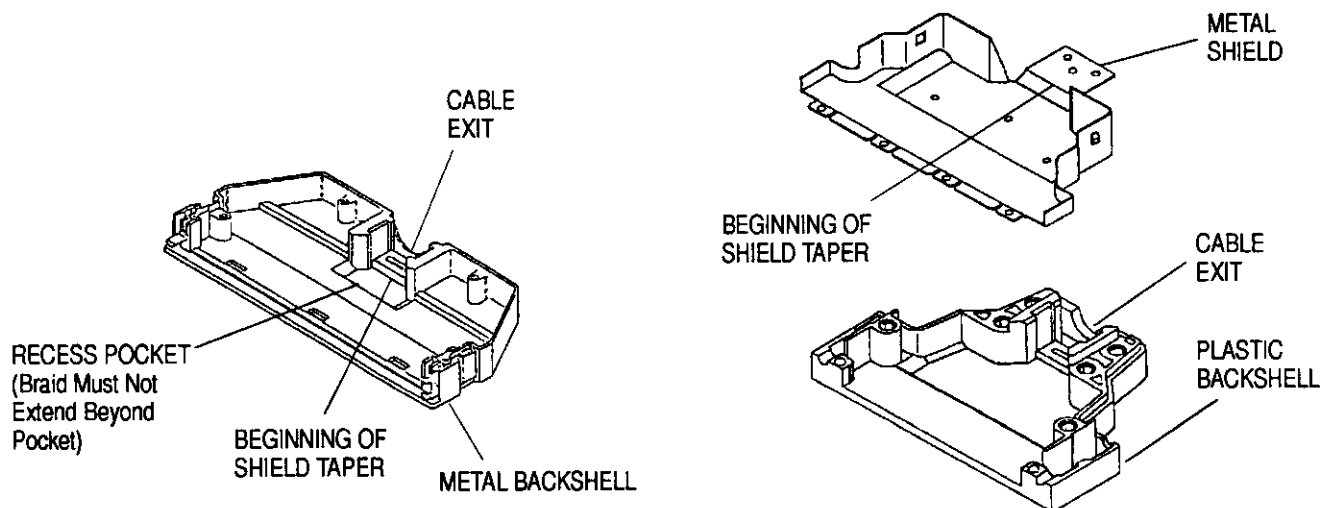

Figure 5
The braid length will vary depending on the backshell style, cable bundle size, and slack needed to assure strain relief for all wires. Essential requirements are that the leading edge of the braid fold extends slightly beyond the beginning of the shield taper and the trailing ends of the braid be trimmed so they do not extend beyond the backshell cable exit. See Figure 5.
Discrete wire cable may be laminated for mass termination by flattening the round bundle of wires and applying a thin lamination over the ends of the wire as shown in Figure 5.
• Braid length will vary depending on backshell style. See Figure 5.